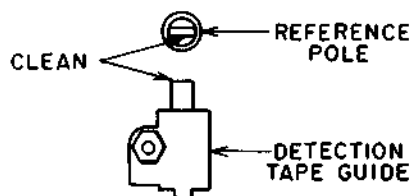

Fig. 27
- 2) Connect the Digital Voltmeter between the PIN (A) and earth.
**NOTE:** Clean the Reference Pole and the Detection Tape Guide, before this adjustment. (Fig. 27)